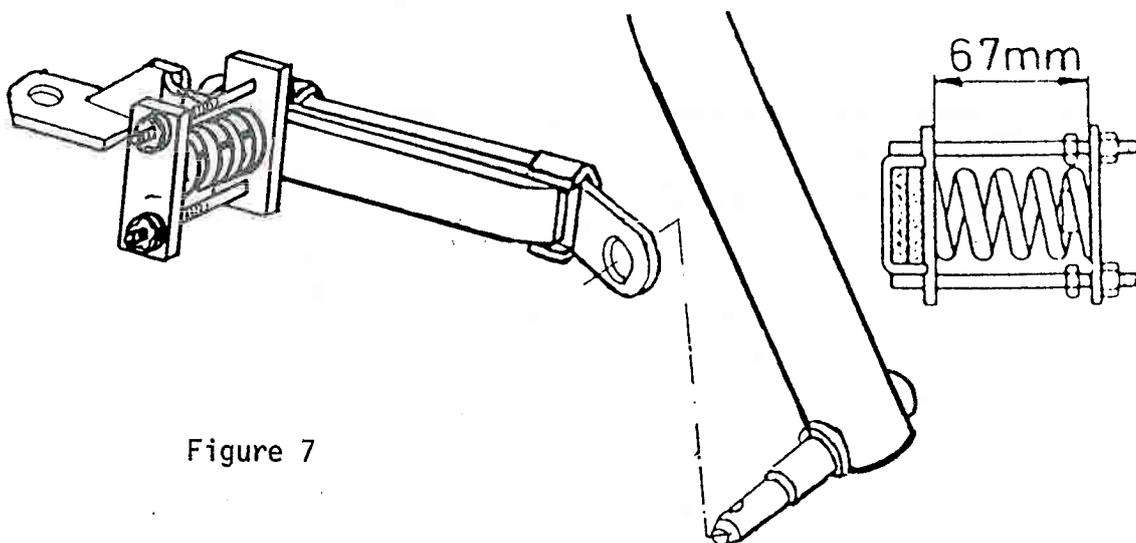

Figure 7
2. REGLAGE DU DISPOSITIF DE SECURITE (figure 7)